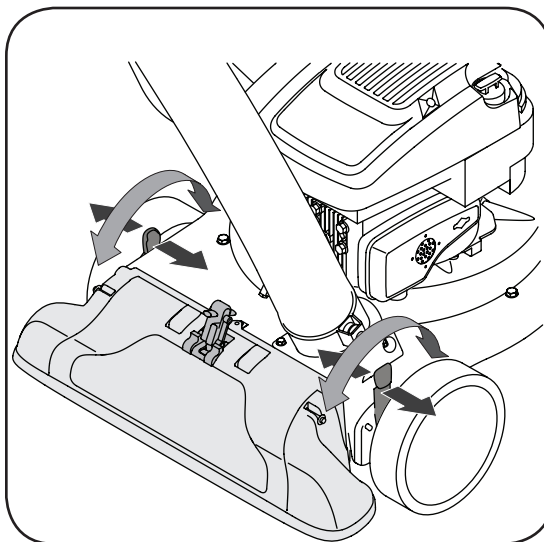

Figure 4-7
1. Depress nozzle height adjustment lever towards wheel. See Figure 4-7.